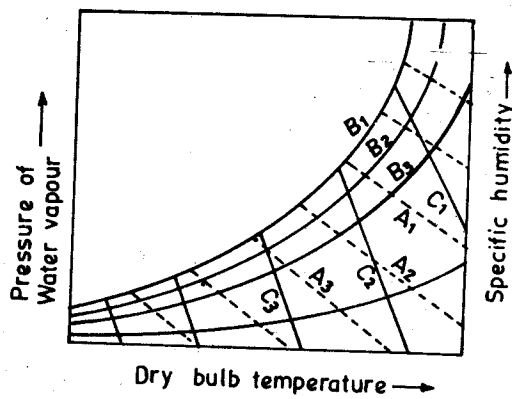

Fig. 9
26. Fig. 9 shows a psychrometric chart. The constant lines represented by A_1, A_2, A_3 ; B_1, B_2, B_3 ; and C_1, C_2, C_3 etc. represent constant
Sol. (b) The top most curve B_1 in Fig. 9 represents saturation line corresponding to 100% relative humidity. Lines moving along this line, i.e. B_2, B_3 etc. represent constant relative humidity lines. More sloping lines, viz. A_1, A_2, A_3 etc. are constant volume lines and dotted lines C_1, C_2, C_3 etc. represent constant wet bulb temperature lines.